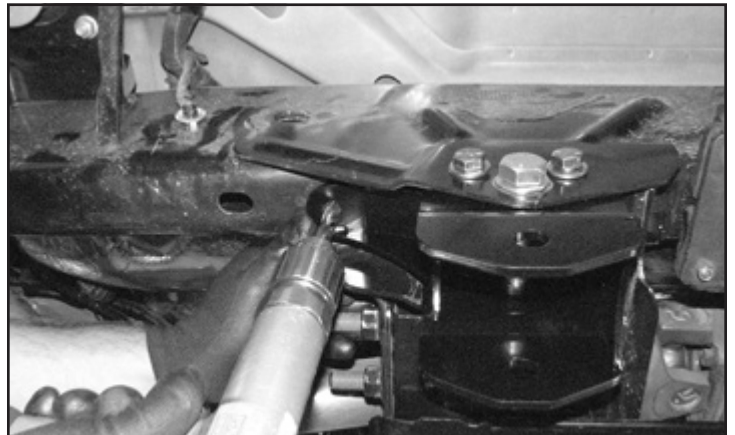

FIGURE 38 - STEP 43
43. Using the Fabtech the radius arm drop bracket as a drill guide, drill a 1/2 hole through the bottom of the frame. **SEE FIGURE 38**